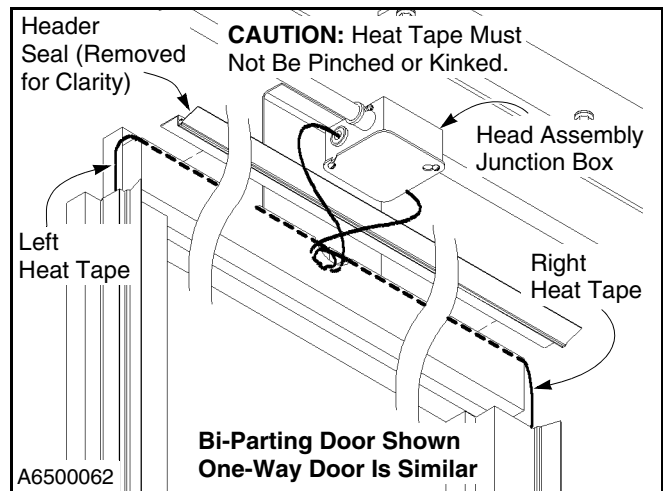

Figure 30
2. Inspect the heat tape that is routed from the frame header to the head assembly junction box. The heat tape must not be pinched, kinked, or damaged. (See Figure 30.)